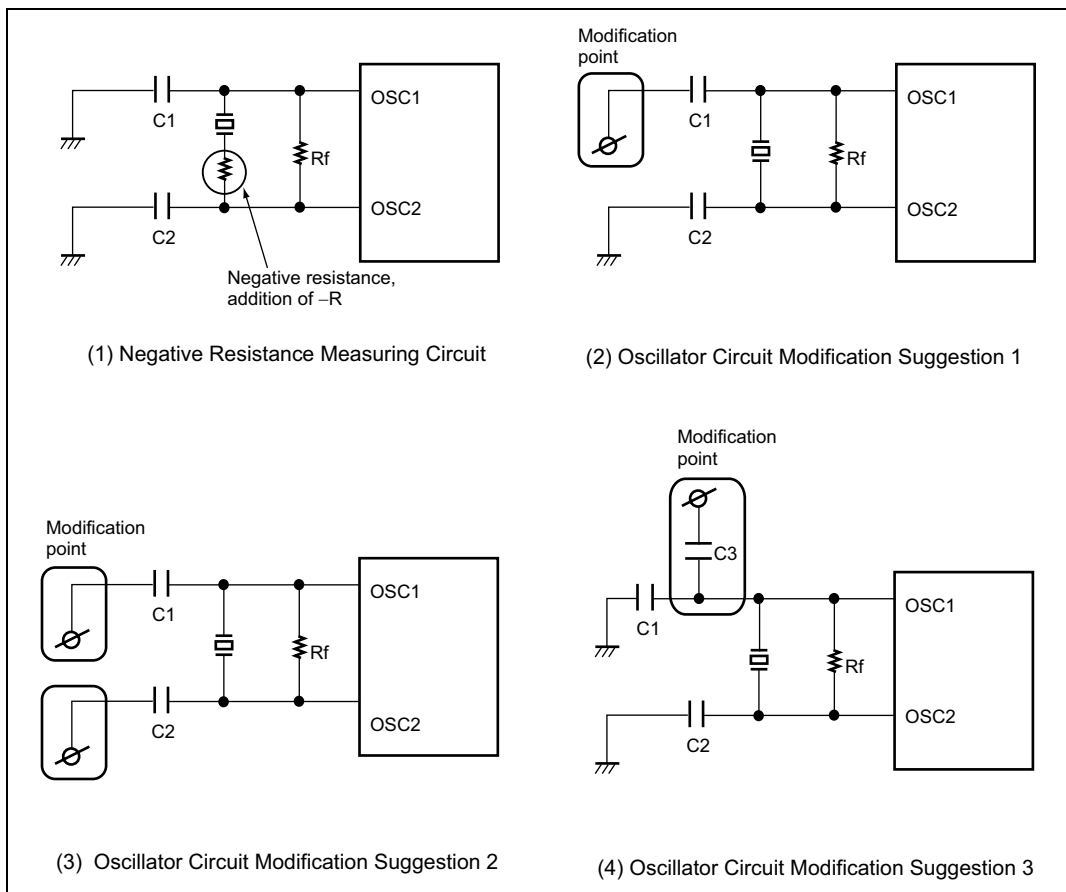

Figure 4.11 Negative Resistance Measurement and Circuit Modification Suggestions
Figure 4.11 (1) shows an example measuring circuit with the negative resistance suggested by the oscillator manufacturer. Note that if the negative resistance of the circuit is less than that suggested by the oscillator manufacturer, it may be difficult to start the main oscillator.
If it is determined that oscillation is not occurring because the negative resistance is lower than the level suggested by the oscillator manufacturer, the circuit may be modified as shown in figure 4.11 (2) through (4). Which of the modification suggestions to use and the capacitor capacitance should be decided based upon an evaluation of factors such as the negative resistance and the frequency deviation.